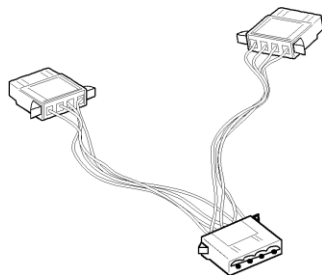

Figure 6. Y connector supplied with the Cary 50
- 1 With the disposable grounding wrist strap (supplied with the Cary 50) fitted, plug the appropriate end of the supplied Y connector (refer Figure 6) into the connector at the end of the Cary 50 PCI card.